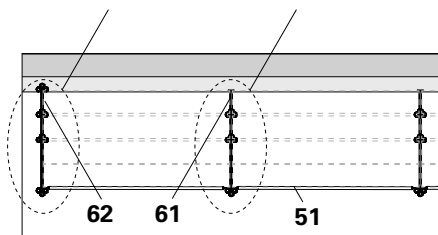

Fig. D1.06a
- Fit Support UC 33 (**61**) onto the middle bays. (Fig. D1.06a + D1.07)